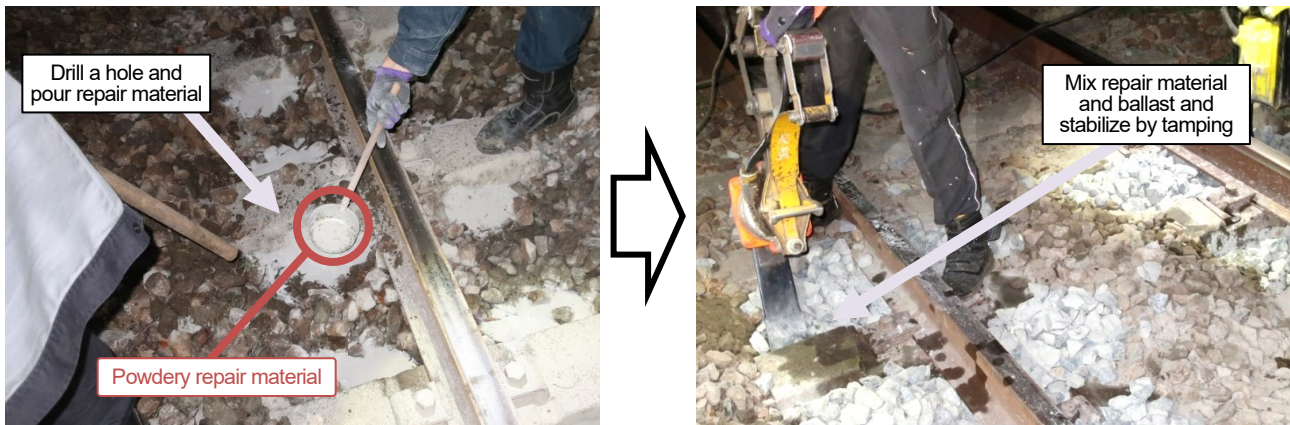

Fig. 3 Repair work with ballast stabilizing method using a hand-held tamper
- In case of the smaller-scale repair site where only hand-held ballast tampers are available, part of the ballast is drilled and the repair material is poured in advance, and then tamped. (Fig. 3)